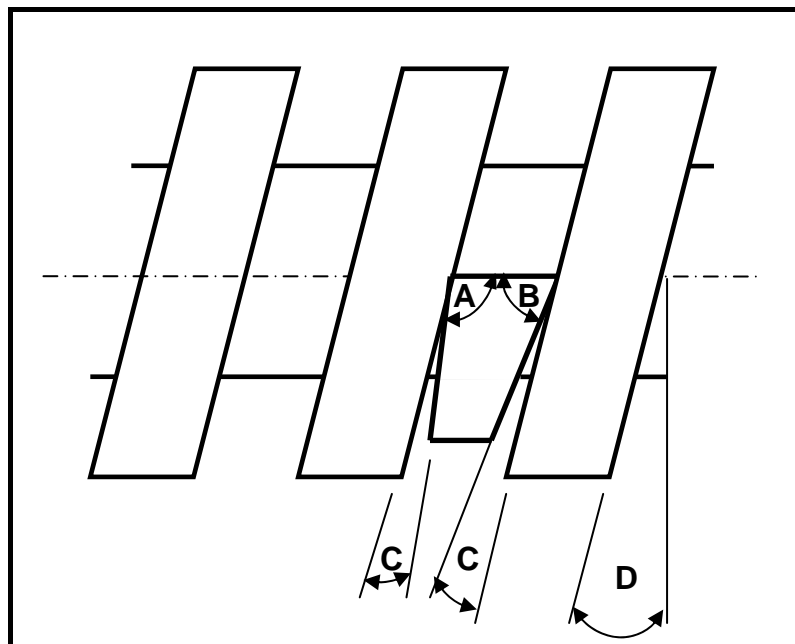

FIGURE 2.1
- 2.2 FIGURE 2.1 shows a cutting tool in position suitable for cutting a right-hand square screw thread. Label the angles according to letters A to D.